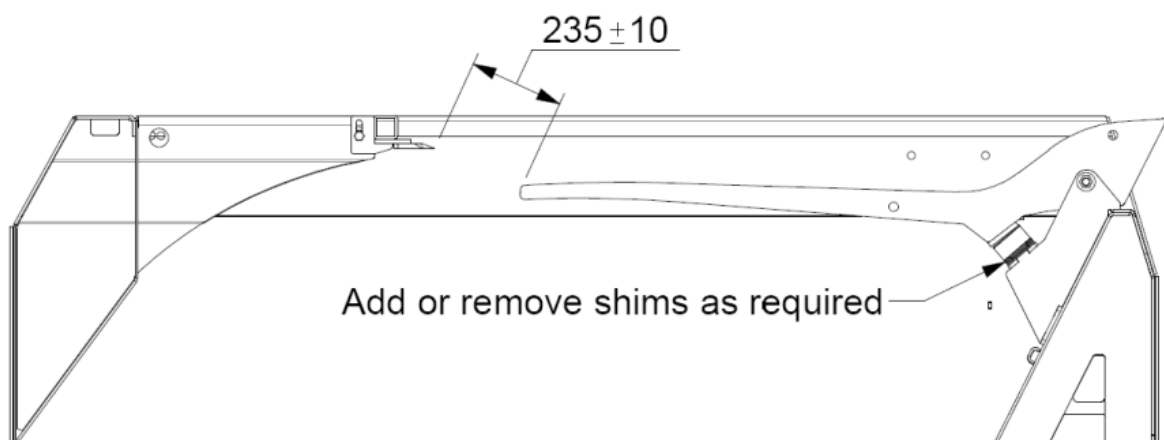

Figure 40: BaleBlend tine to top knife setting
- 3: The rubber buffer should also be checked for wear or signs of damage which may affect its shock absorption. Optimum tine to top knife gap is **235mm ± 10mm** (see Figure 40), but may vary depending on application and the design of tine fitted. Please consult your local Service Centre for settings.